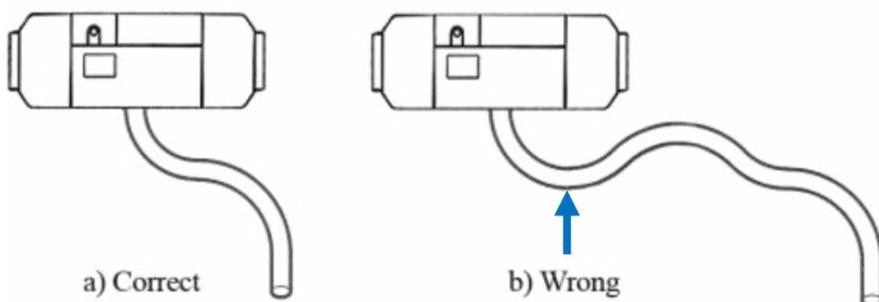

Fig. 26
- Install the combustion air inlet pipe and the exhaust pipe in a continuous downward direction from the heater, to discharge condensation water. Fig. 26.